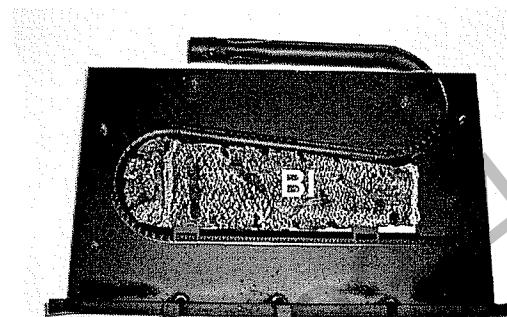

FIGURE 11A
G) #932 DV LOG INSTALLATION. See Figures 11A - 11C
1. Place the 'BI' log onto the center of the burner cover aligning the notches in the bottom of the log to the brackets in the burner cover. Figure 11A.